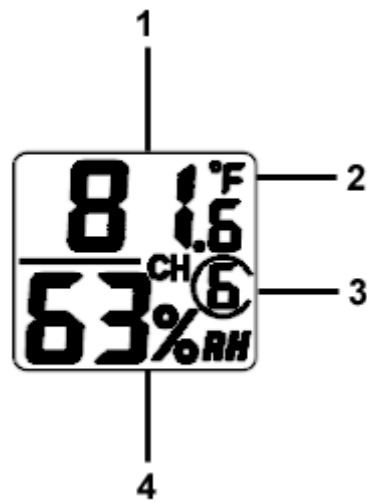

Figure 10
4. Verify the correct channel number (CH) and temperature units of measure (°F vs. °C) are on the display, as shown in Figure 10.